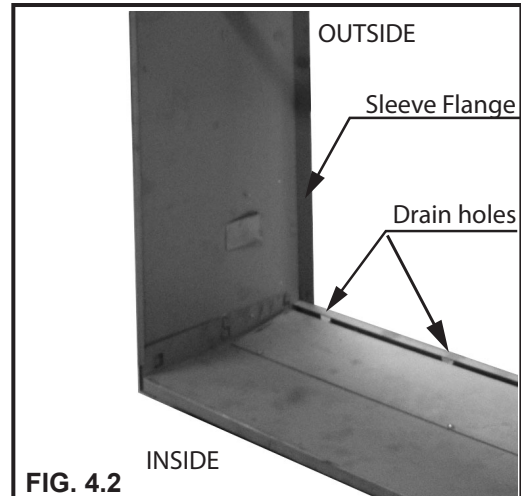

FIG. 4.2
- DURING THE WALL SLEEVE ASSEMBLY PAY ATTENTION THAT THE SIDE PANEL FLANGES AND THE BASE PANEL DRAIN HOLES ARE ON THE SAME SIDE OF WALL SLEEVE, SEE FIG 4.2.